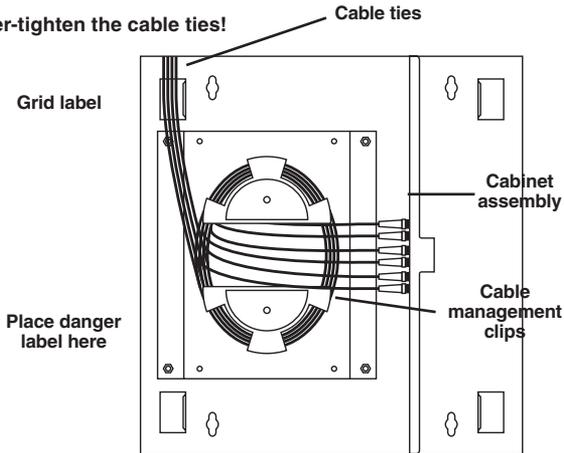

Figure 1. Inside view of the cabinet.
5. Secure the cable to the cable tie bracket as shown in Figure 1.